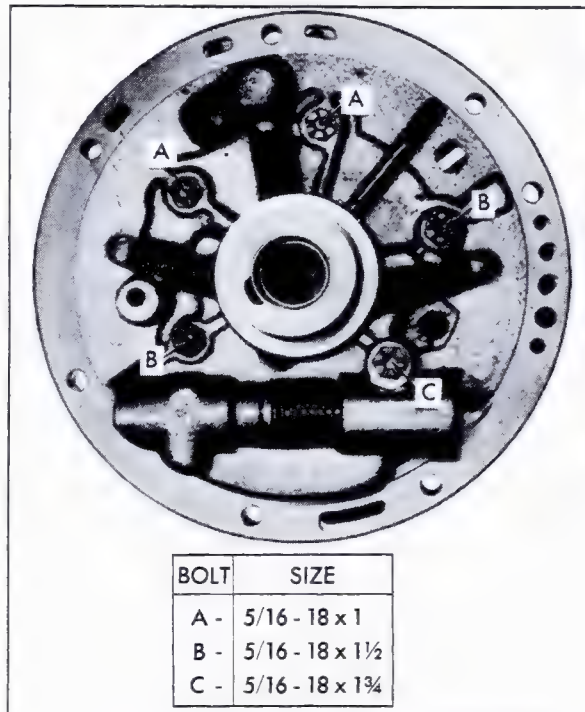

Fig. 7-75 Pump Cover Attaching Screw Chart
12. Install pump cover attaching screws following screw chart, Fig. 7-75. Leave screws one turn loose at this time.